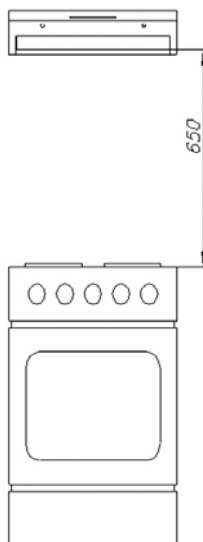

Fig. 3
3. Put the appliance on the lower edge of the upper cupboard of the kitchen set. Check the minimum required height according to Fig. 3 (650 mm for electric, and 750 mm for gas hotplates).